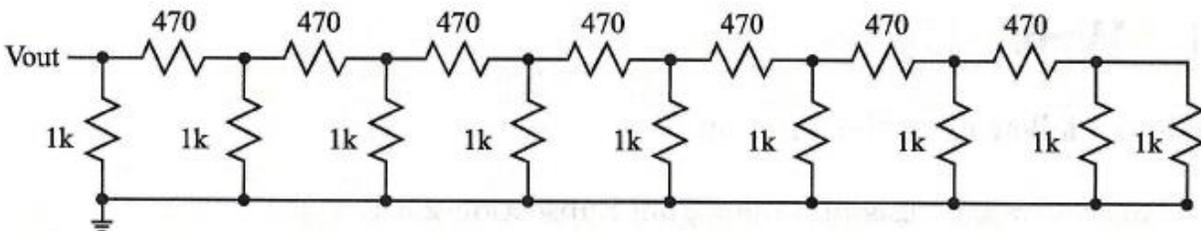

Figure 6.7: An 8-bit $R-2R$ ladder with all of the digital bits tied to ground.
The equivalent resistance for an $R-2R$ ladder with all the digital bits tied to ground is R . (See Appendix T.) However, it is not always possible to obtain the resistor values desired for a particular design. Suppose, for example that you design an $R-2R$ ladder intending to use 500Ω and $1k\Omega$ resistors, but then you discover that 500Ω resistors are not available – in fact, they aren't even a standard value! (See Appendix D.) The nearest value you can get is 470Ω , so your actual circuit will look like the one in Figure 6.7. Calculating the equivalent resistance of that circuit is *not* trivial.
1. Construct the 8-bit $R-2R$ ladder of Figure 6.7 in LTspice. Using a 1 V or 1 A test source (your choice) connected at the V_{out} node, run a DC operating point simulation and determine the equivalent resistance. ($1V \Rightarrow R=1/I$ or $1A \Rightarrow R=V$). Save the result.